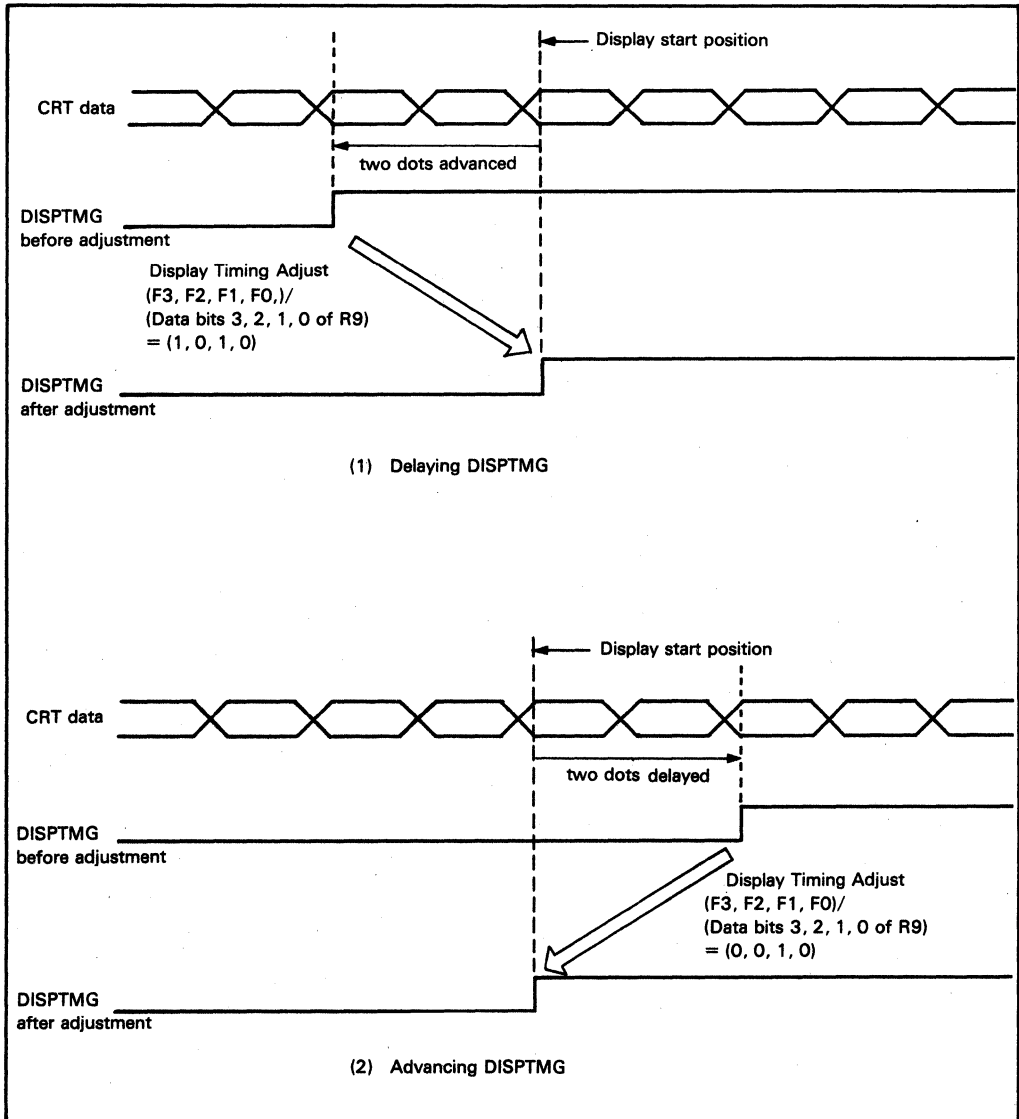

Figure 15 Adjustment of Display Timing Signal
Figure 15 shows examples of adjusting the display timing signal. Since the signal is two dots ahead of the display start position in case (1), (F3, F2, F1, F0) or (data bits 3, 2, 1, 0 of R9) should be set to (1, 0, 1, 0) to delay the signal for two dots. Since the signal is two dots behind the display start position in case (2), they should be set to (0, 0, 1, 0) to advance the signal for two dots. When there is no need to adjust the signal, settings of either (0, 0, 0, 0) or (1, 0, 0, 0) will do.